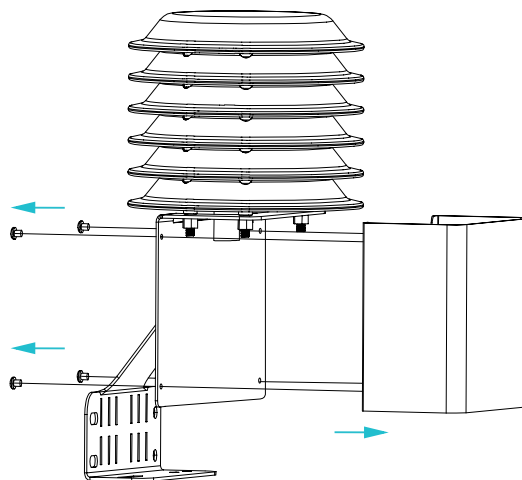

Figure 9 Removing Weather Shield Cover
1. Remove the four screws located on the shield backplate and remove the shield cover as shown in Figure 9 below.